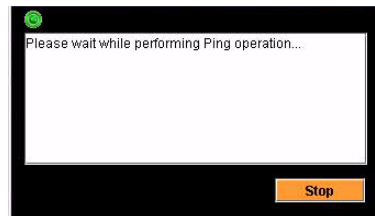

Figure 5-14 *Performing Ping Test Window*
- c. Next, the AIM performs a standard ping test with the BSU, displaying the window shown in *Figure 5-14*.